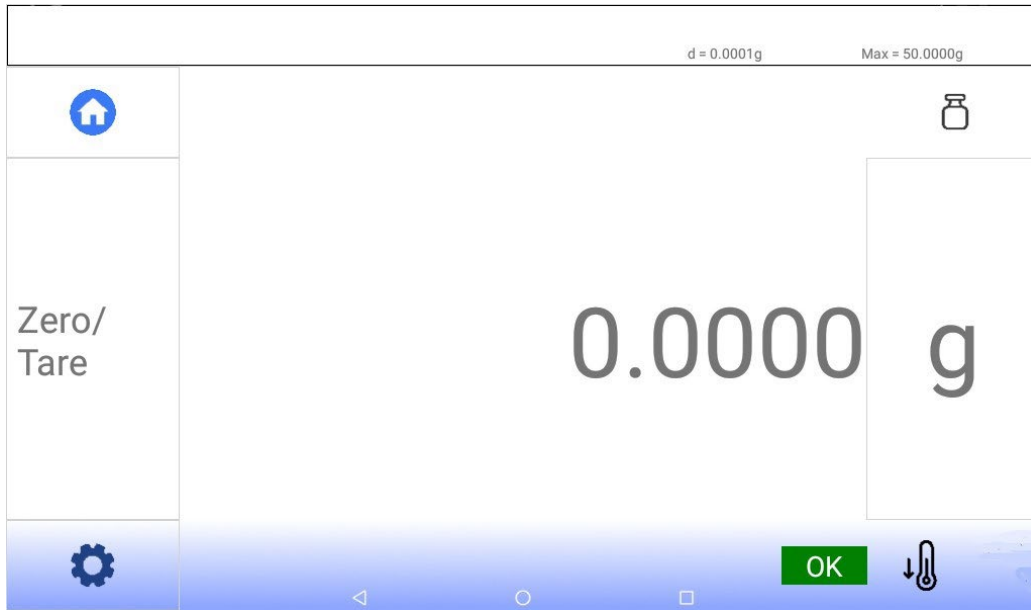
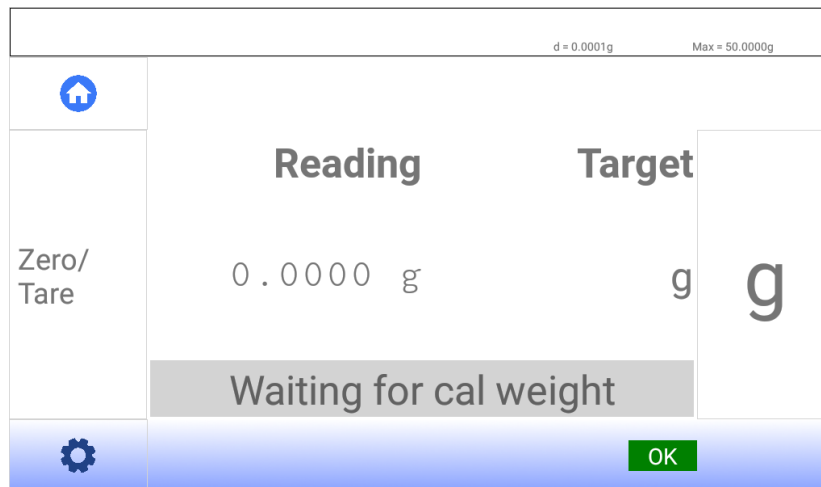

Figure 13. Default “Home Screen” or Main Menu
Figure 17. Start of Balance Calibration
The balance “Home Screen” which is the main menu for the balance is illustrated in Figure 13. The upper bar of the home screen shows two metrology values. “d” is the readability of the balance in grams. The “d” value changes as different levels of precision are selected.
Pressing the Zero/Tare when not using the powder pan or other weight to be tared, returns the balance to all zeros such as shown in Figure 13. Oftentimes, the balance may show a weight even when there is nothing on the weighing pan such as Figure 11 illustrates. This can be due moisture, dust or other debris collecting on the weighing pan or powder pan, disturbances such as vibrations sensed by the balance, or quick transitions in temperature. It is good practice to zero the balance before each measurement to eliminate this measurement disturbance.
In Figure 13, the 0.0000 value is the weight measurement value in the precision selected.
1. Select the calibration weight icon from the Figure 13 home screen. The calibration submenu shown in Figure 17 will open. “Target” is the calibration weight that should be used. “Reading” is the measurement.